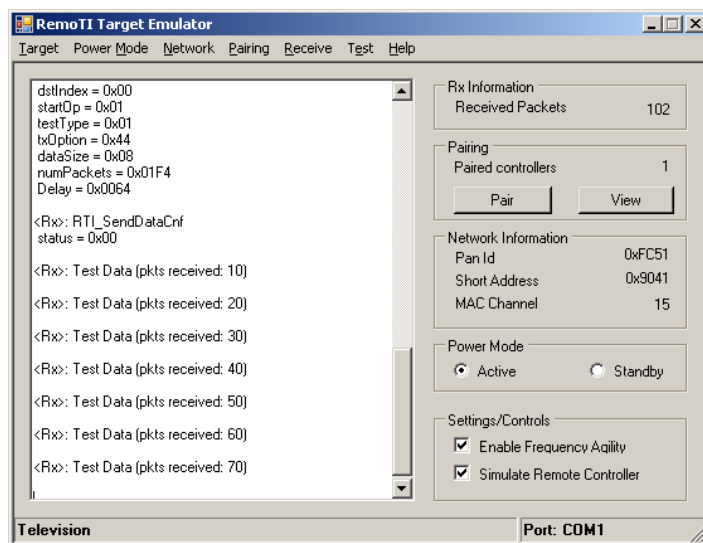

Figure 12. Target Emulator Test Execution Stage
4. Press the number '1' key to enter TEST EXECUTION STATE and observe the RC LED is fast blinking. The default parameters in Table 1 are used if step 3 is omitted. Also observe the packets in the target emulator log window as seen in Figure 12 below.